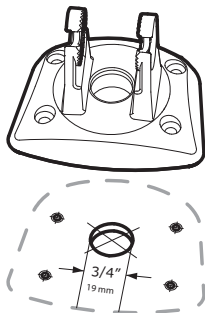

Figure 6
- 1a. Mark and drill a 3/4" hole as shown in Figure 6. Route the cables through the hole. The cables will exit through the center hole on the control head base.